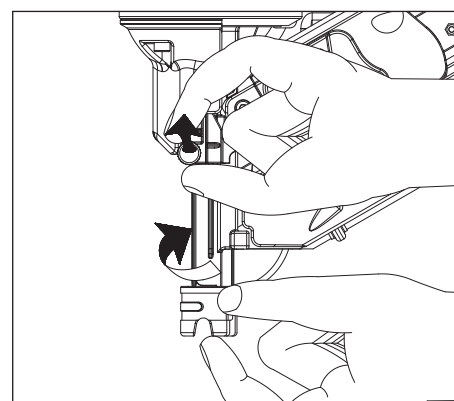

Figure 10 - Nail Depth Adjust
2. Pull red pin out. Twist Work Contact Element (WCE) 1/4 turn as shown. Release red pin. *See Figure 10.*